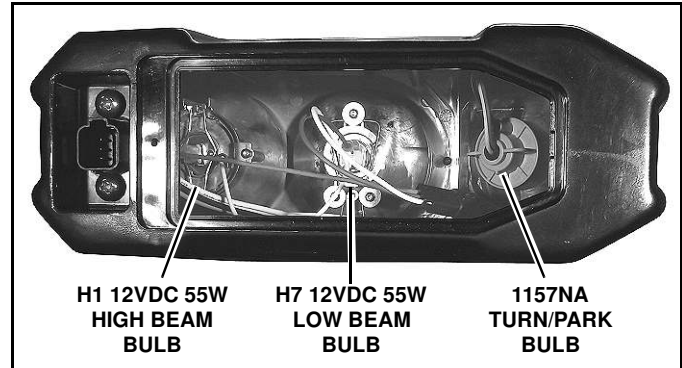

Figure 2-3
2. **To replace the High Beam bulb:** Release the bottom portion of the spring retainer from the socket base and lift the bulb from the light housing. Disconnect the red lead from the bulb. (See Figure 2-3)
3. **To replace the Low Beam bulb:** Release the bottom portion of the spring retainer from the socket base and lift the bulb from the light housing. Disconnect both wires from the bulb. (See Figure 2-3)
4. **To replace the Turn Signal/Park Light bulb:** Turn the socket base counter-clockwise to release and pull the socket from the housing. Slightly depress and turn the bulb to release it from the socket. (See Figure 2-3)